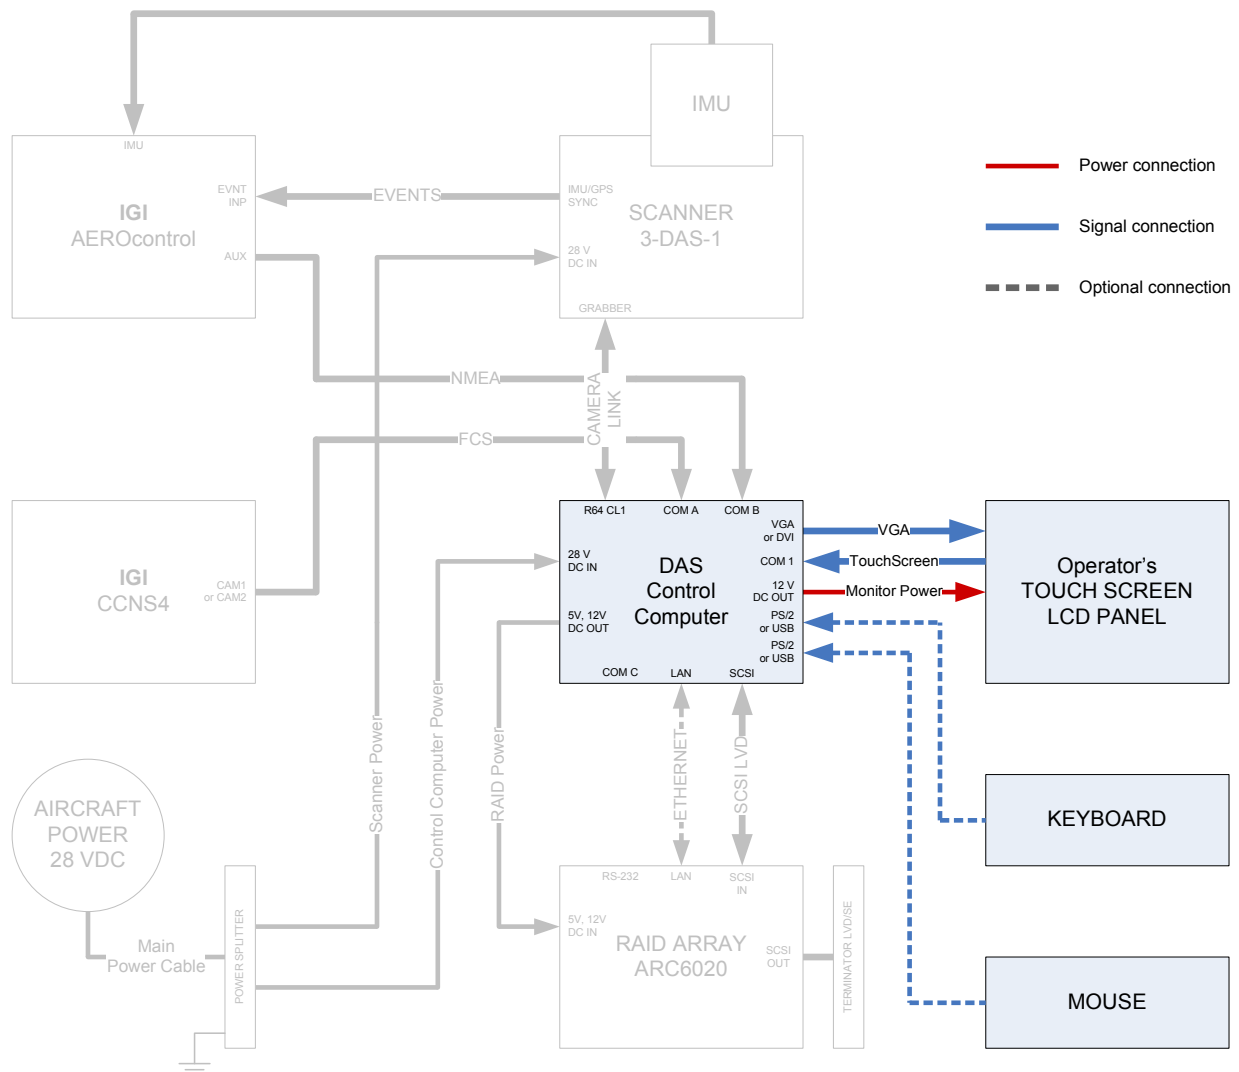

Figure 1.14: Connection of scanner operator's console.
- Connect keyboard and mouse to control computer if required. (Figure 1.14)